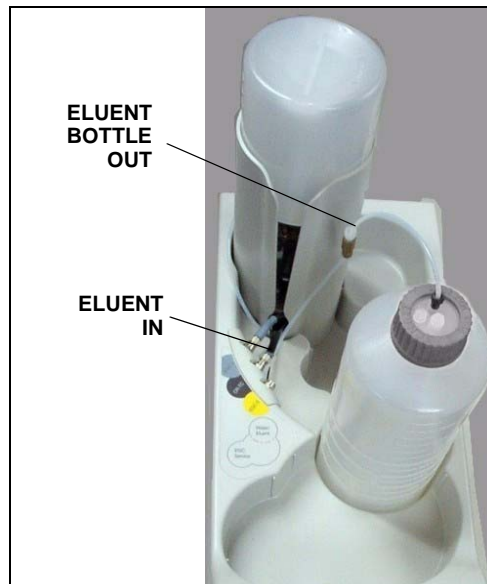

Figure 3-8. Reservoir Connections
If it is not already connected, connect the **ELUENT BOTTLE OUT** line from the reservoir cap to the **ELUENT IN** line, which extends from the plumbing and cable chase on the top of the ICS-2100 (see Figure 3-8).
1. Make sure the eluent reservoir is filled and the tubing connecting the reservoir to the ICS-2100 tubing is securely connected (see Figure 3-8).